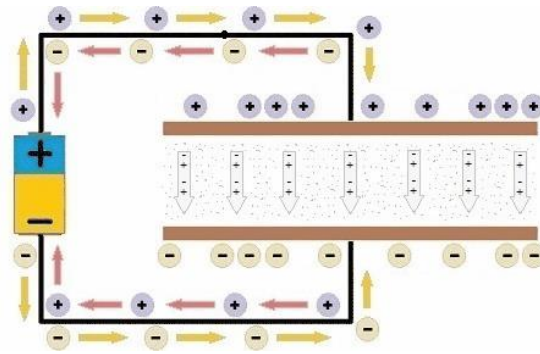

Figure 1: RC Charging Circuit.
When a direct current flows into a capacitor, a positive charge plate. The buildup continues until the capacitor is fully charged—i.e., when the plates have accumulated as much charge (Q) as they can hold. This amount is determined by the capacitance value (C) and the voltage applied across the component: ($Q = CV$). At that point, current stops flowing (see Figure 1).